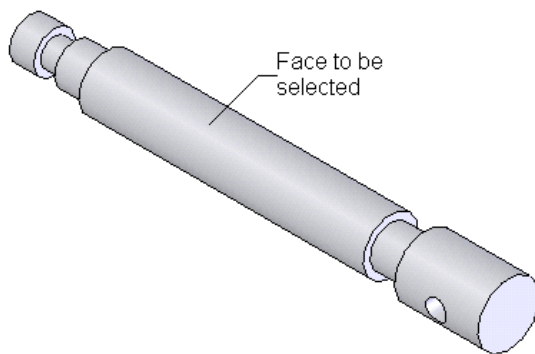

Figure 10-60 Face to be selected
- Drag and drop the jaw screw in the assembly document. Apply the required mates, refer to Figures 10-60 through 10-65.
4. Move the cursor to the cylindrical face of the jaw screw as shown in Figure 10-60. Double-click the face. The jaw screw is displayed as transparent.